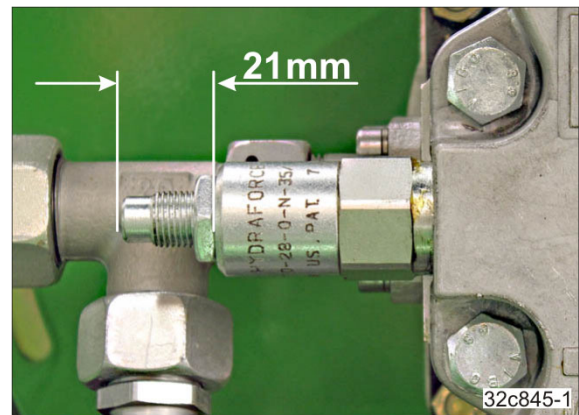

Fig. 165
2. Adjust the pressure relief valve to the factory-set dimension "21 mm" (Fig. 165).